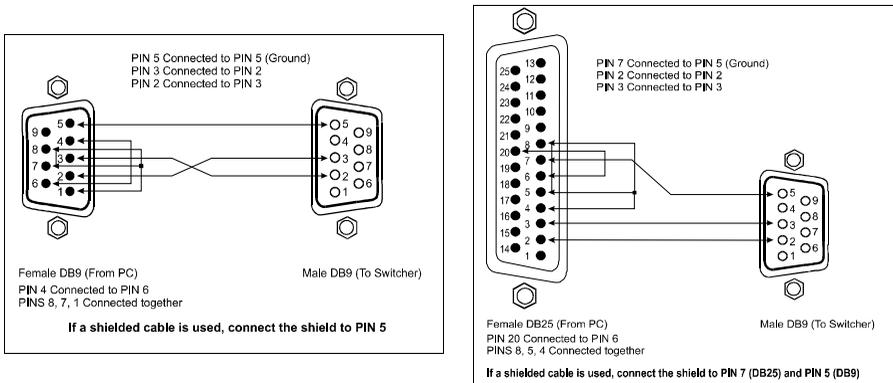

Figure 3: Connecting a PC without using a Null-modem Adapter
- Connect the RS-232 DB9 port on your PC to the RS-232 DB9 rear panel port on the **VS-402xl/VS-602xl** unit, as Figure 3 illustrates (depending on whether the PC has a 9-pin or 25-pin connector)